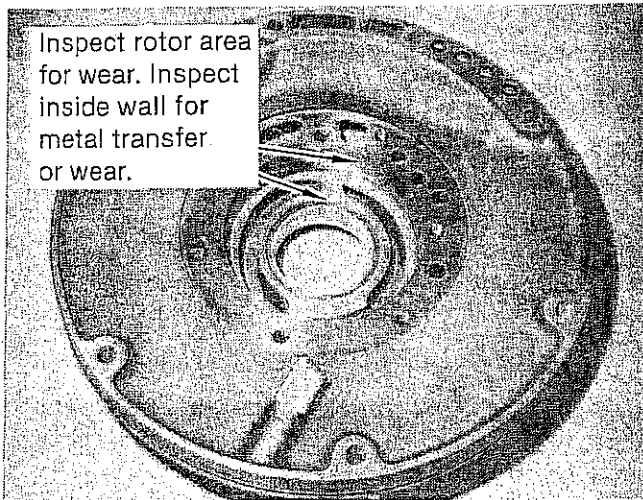
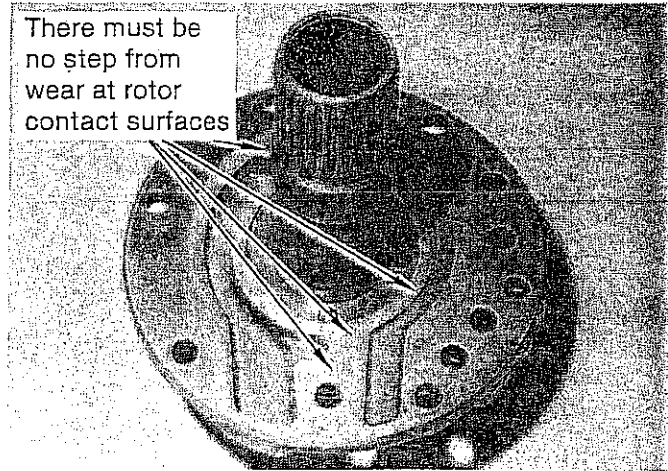
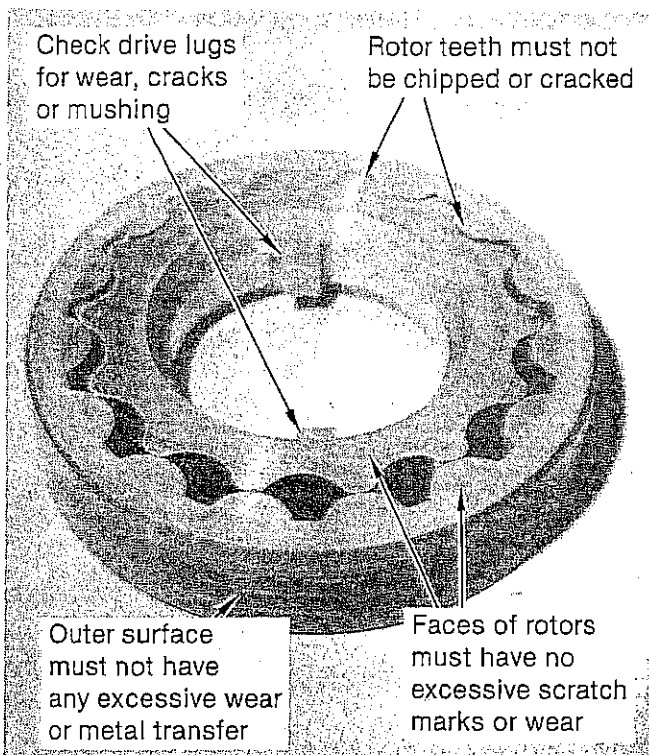

FIGURE 43
FIGURE 44
FIGURE 45
**STEP 1.** Inspect oil pump body for damage. The area where the pump rotors ride should have no excessive wear. (See Fig. 43) Some scratch marks are normal. The rotor race of the reaction shaft support should have no step at any point where the rotors ride. (See Fig. 44) The rotors themselves should have clean faces and the outer edge of the large rotor should show no metal transfer or wear. (See Fig. 45)